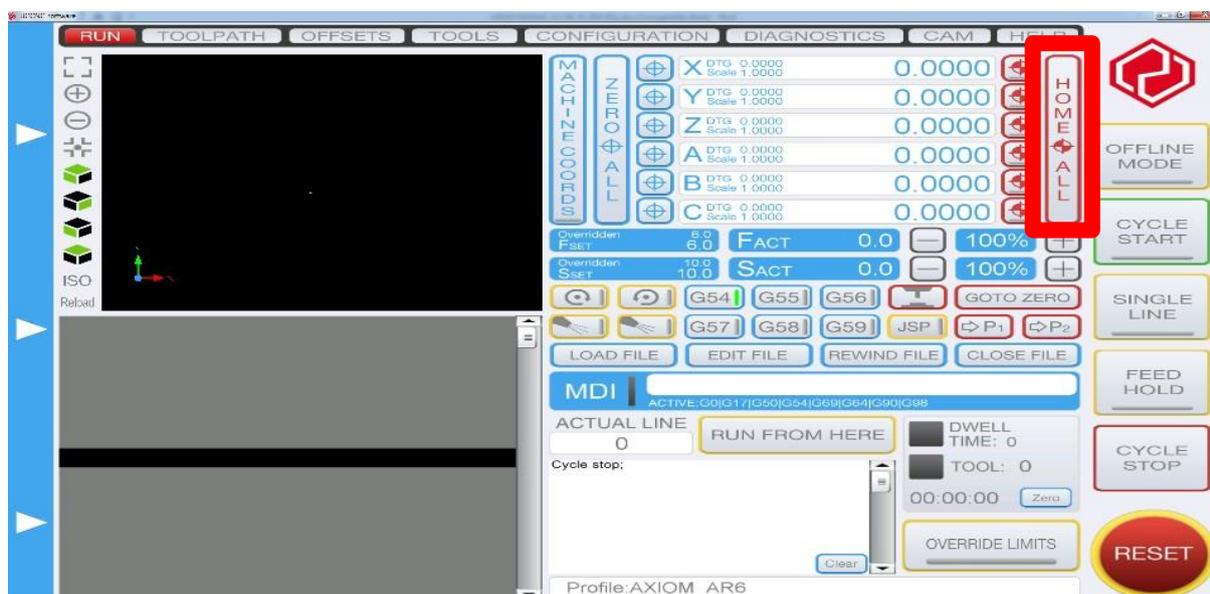

Figure 51: UCCNC Home All Command
**You must reference the machine each time the machine gets turned on or your start a fresh version of UCCNC** to tell the software where the edges of the machine movement are each time. This can be done by using the “Home All” Command as you can see in Figure 51.